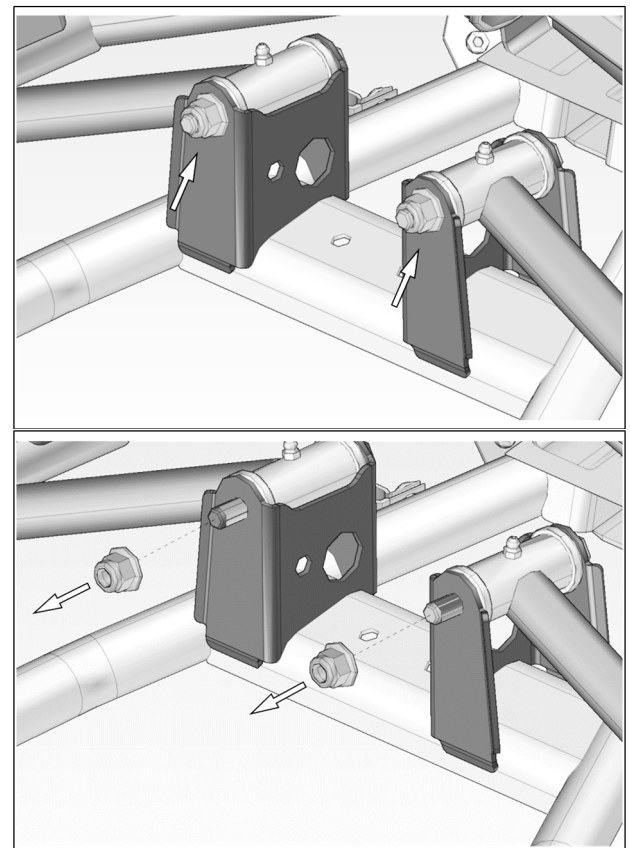

Fig. 13
13. Remove the flange nylon nuts from the mounting bolts securing the rear suspension lower arms (near front of differential). Refer to Fig. 13